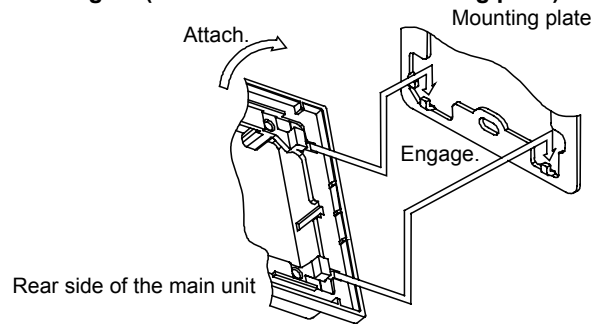

Figure 8. Assembling the Wall-direct mounting kit
- 2) Attach the main unit of the Wall-direct mounting kit to the mounting plate with one flat-head machine screw supplied with Wall-direct mounting kit. (See Fig. 8.)
- 2) Attach the main unit of Wall-direct mounting kit to the mounting plate with one flat-head machine screw (M3 x 16) supplied with Wall-direct mounting kit. (See Fig. 8.)